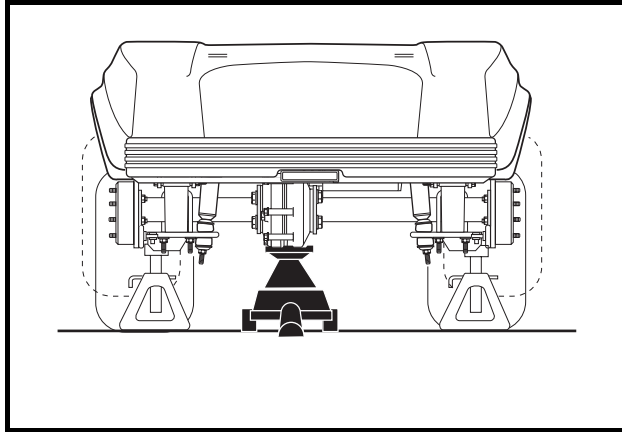
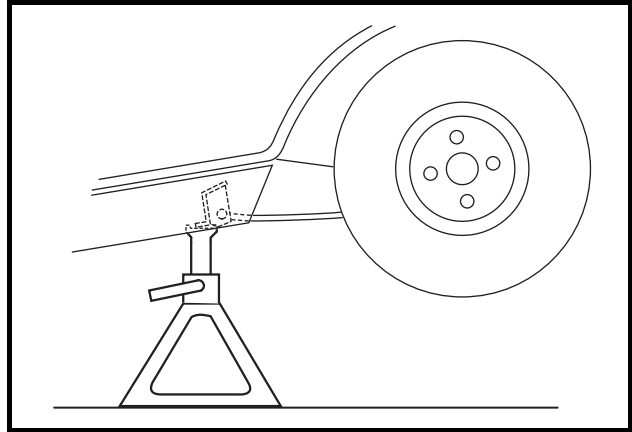

Figure 15-1 Lift Vehicle with Floor Jack
Figure 15-2 Vehicle Supported on Jack Stands
4. Place floor jack under transaxle and raise rear of vehicle (**Figure 15-1, Page 15-3**) then place jack stands under frame crossmember between the spring mount and the side stringer, just forward of each rear wheel. Lower the vehicle to let the jack stands support the vehicle (**Figure 15-2, Page 15-3**). **See following WARNING.**